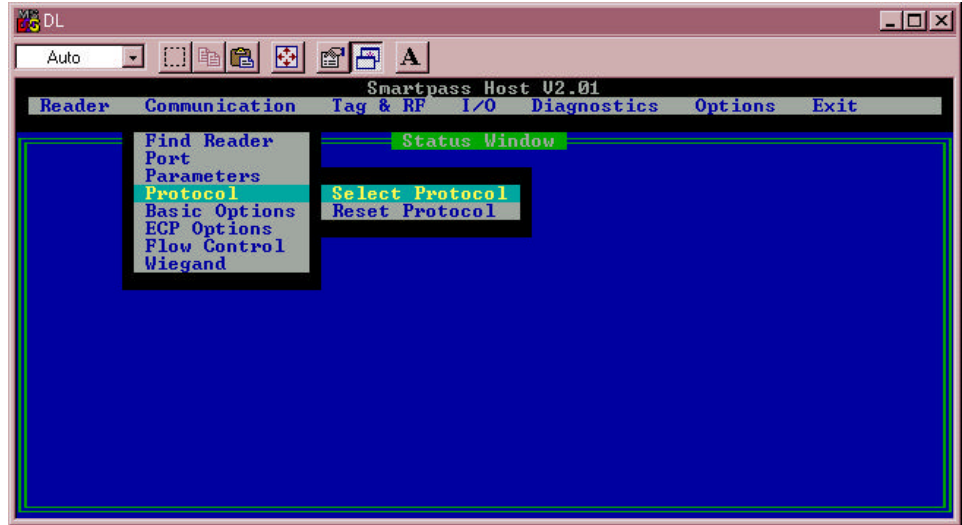

Figure 4-25 Protocol Parameters Submenu
1. Select the **Communications** drop-down menu and click the **Protocol** option. Figure 4-25 illustrates the two options available.